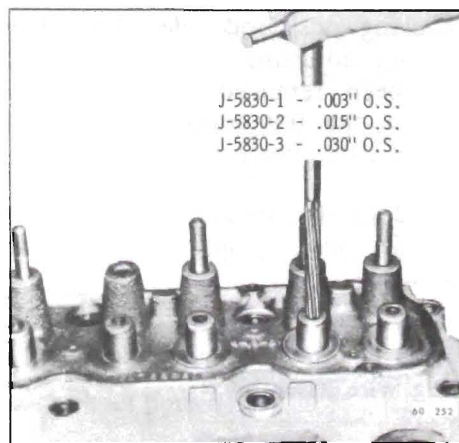

Figure 60-106 - Reaming Valve Guide
8. If a valve stem has excessive clearance in its guide, the guide must be reamed oversize. See Figure 60-106. Oversize valves of .003", .015" and .030" are available through the Parts Department.